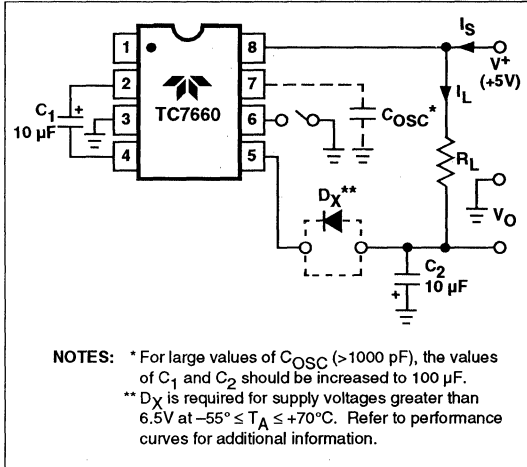

Figure 1. TC7660 Test Circuit
ELECTRICAL CHARACTERISTICS: V⁺ = 5V, T_A = +25°C, C_{OSC} = 0, Test Circuit (Figure 1), unless otherwise indicated.
TYPICAL PERFORMANCE CHARACTERISTICS (Circuit of Figure 1)
NOTE: The curves on the right include in the supply current that current fed directly into the load (R_L) from V^+ (see Figure 1). Thus, approximately half the supply current goes directly to the positive side of the load, and the other half through the TC7660, to the negative side of the load. Ideally, $V_{OUT} = 2 V_{IN}$, $I_S \cong 2 I_L$, so $V_{IN} \cdot I_S \cong V_{OUT} \cdot I_L$.
- Add diode D_X (as shown in Figure 1) for high-voltage, elevated-temperature applications. A 1N914 diode is suitable.